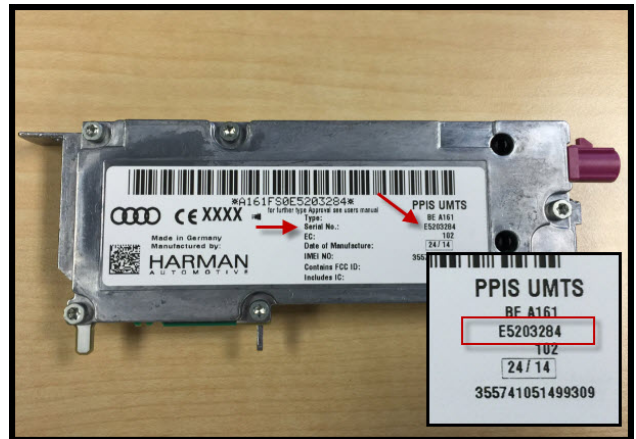

Figure 12. Serial number of the PPIS UMTS telephone module indicated by the red arrows and red box.
- Before proceeding, write the serial number of the new replacement UMTS telephone module on the rework label (Figure 12).